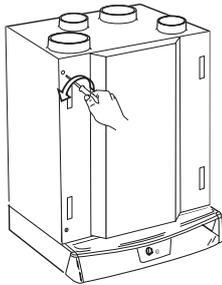

Figure 13. Opening the unit door.
2. Open the unit door by unscrewing the two screws on the front, see figure 13.